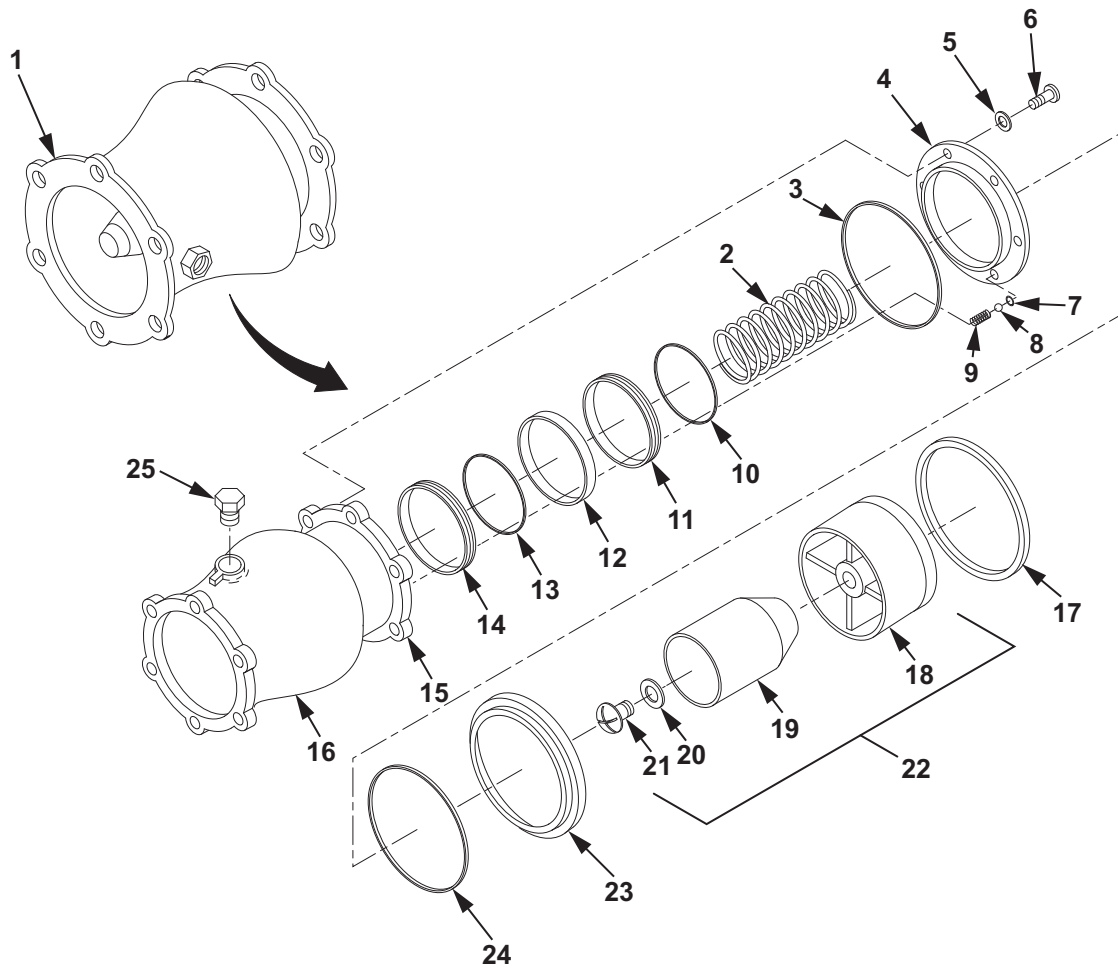

Figure 1. Hose End Control Valve Disassembly.
1. Place drain pans under hose end control valve (Figure 1, Item 1).
2. Depress outer piston (Figure 1, Item 18) to relieve pressure on retaining ring (Figure 1, Item 17).
3. Remove retaining ring (Figure 1, Item 17) from hose end control valve housing (Figure 1, Item 16).
4. Slowly release pressure from the spring (Figure 1, Item 2) to force the piston assembly (Figure 1, Item 22) from the hose end control valve housing (Figure 1, Item 16).
5. Remove piston assembly (Figure 1, Item 22) from the hose end control valve housing (Figure 1, Item 16).
6. Disassemble piston assembly (Figure 1, Item 22).
7. Remove screw (Figure 1, Item 21) and packing (Figure 1, Item 20) to separate outer piston (Figure 1, Item 18) from inner piston (Figure 1, Item 19).
8. Discard screw (Figure 1, Item 21) and packing (Figure 1, Item 20).
9. Remove spring (Figure 1, Item 2).
Screws (Figure 1, Item 6) are self-locking screws and are designed to be reused numerous times before replacement. If a torque wrench is not used to check running torque while removing screws (Figure 1, Item 6), then screws (Figure 1, Item 6) should be replaced.
10. Remove four screws (Figure 1, Item 6) and four washers (Figure 1, Item 5) securing seal retainer (Figure 1, Item 4) to the hose end control valve housing (Figure 1, Item 16).
11. Using a torque wrench and screwdriver bit, check running torque while removing four screws (Figure 1, item 6). If running torque is less than 1.5 in. lb (0.16 N•m), discard screw (Figure 1, Item 6).
12. Remove and retain four washers (Figure 1, Item 5).
13. Remove seal retainer (Figure 1, Item 4), quad ring (Figure 1, Item 7), ball (Figure 1, Item 8) and spring (Figure 1, Item 9). Discard quad ring (Figure 1, Item 7) and spring (Figure 1, Item 9).
14. Remove and discard O-ring (Figure 1, Item 3).
15. Remove and discard gasket (Figure 1, Item 11) and O-ring (Figure 1, Item 10).
16. Remove seal spacer (Figure 1, Item 12).
17. Remove and discard gasket (Figure 1, Item 12) and O-ring (Figure 1, Item 13).
18. Remove and discard seal (Figure 1, Item 23) and O-ring (Figure 1, Item 24) from hose end control valve housing outlet (Figure 1, Item 15).
19. Remove breather assembly (Figure 1, Item 25).